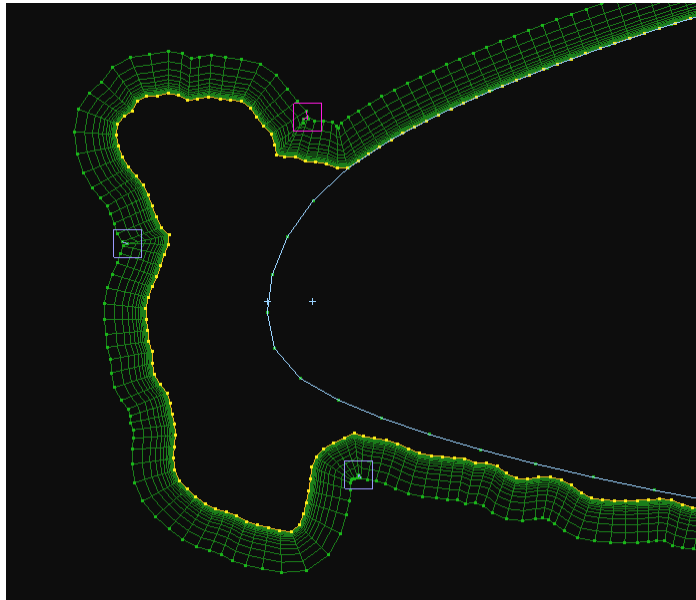

Figure 20. Twists and creases on the JMAX boundary of the viscous sublayer are highlighted.
- Click the **Apply** button to make the changes permanent, but do not close the window. The graphics window should contain an image similar to Figure 20.